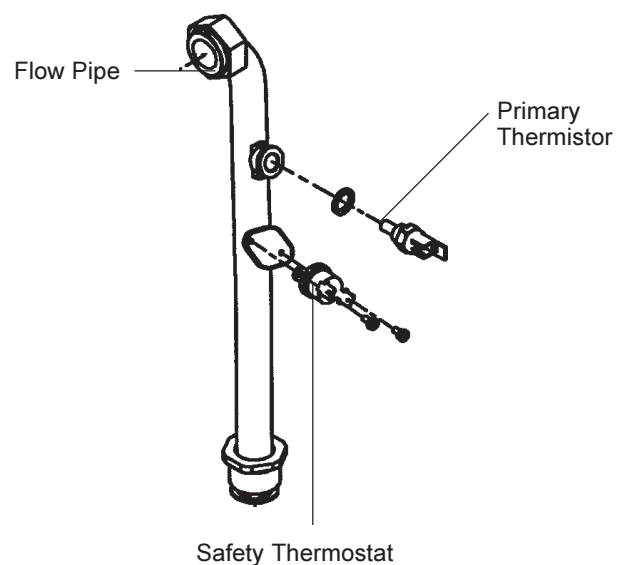

**Fig.31**
- 8.16.10** Withdraw hydraulic group from appliance. See fig. 31 for further disassembly.
- 8.18.6** See Fig.31 for further disassembly and location of components.